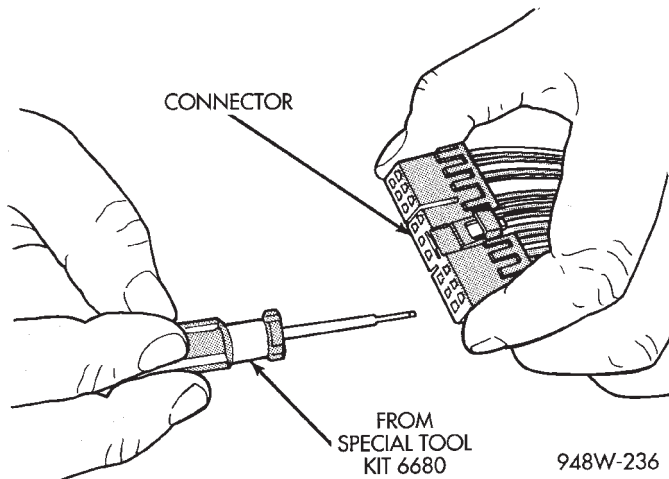
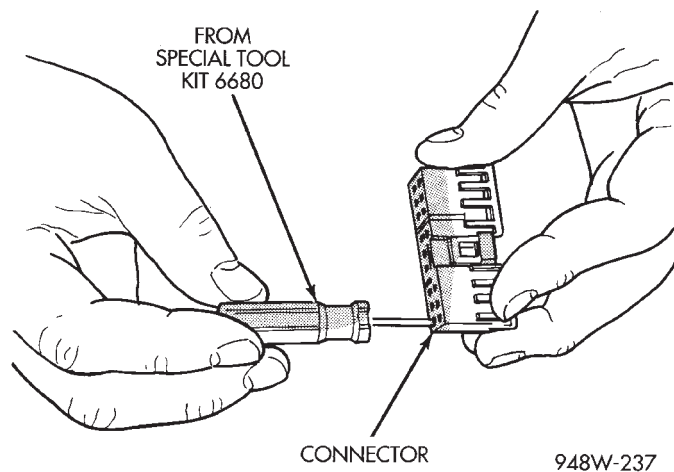

Fig. 17 Terminal Removal
Fig. 18 Terminal Removal Using Special Tool
(4) Position the connector locking finger away from the terminal using the proper pick from special tool kit 6680. Pull on the wire to remove the terminal from the connector (Fig. 17) (Fig. 18).
(5) Cut the wire 6 inches from the back of the connector.
(6) Remove 1 inch of insulation from the wire on the harness side.
(7) Select a wire from the terminal repair assembly that best matches the color wire being repaired.
(8) Cut the repair wire to the proper length and remove 1 inch of insulation.
(9) Place a piece of heat shrink tubing over one side of the wire. Make sure the tubing will be long enough to cover and seal the entire repair area.
(10) Spread the strands of the wire apart on each part of the exposed wires.